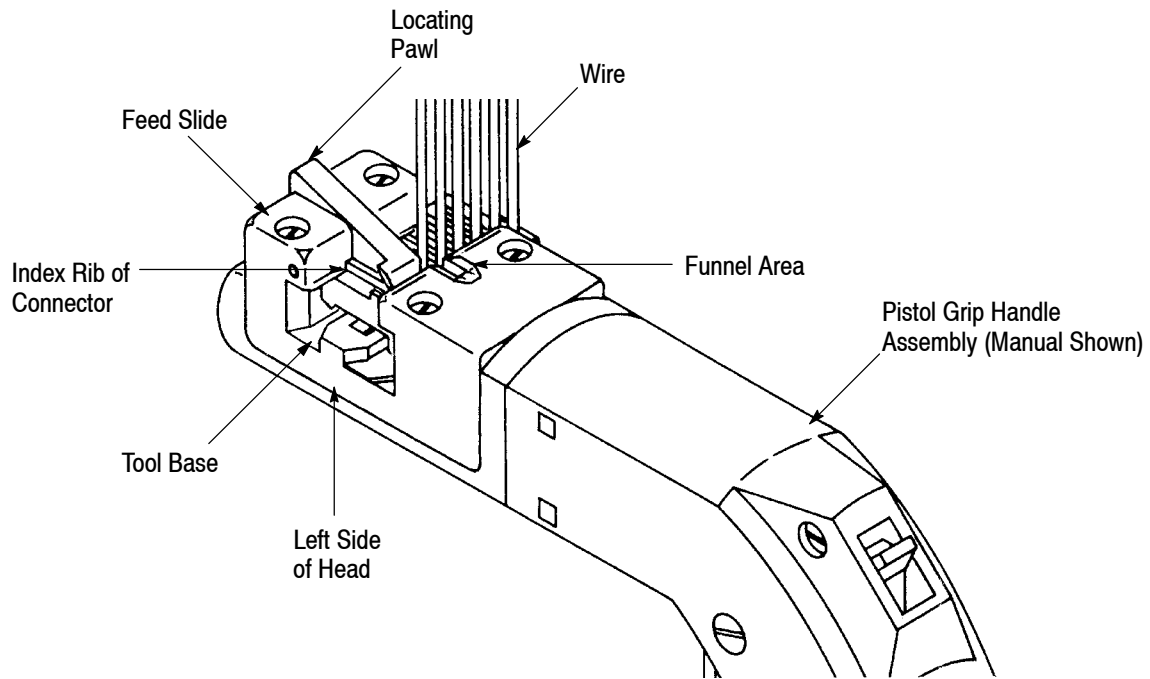

Figure 5
5. TERMINATING PROCEDURE (Refer to Figure 5)